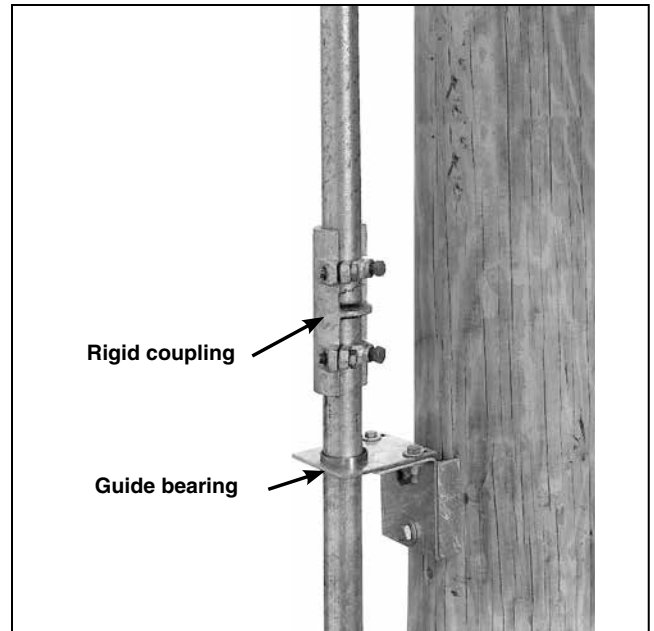

Figure 19. Installing the intermediate section of the vertical operating pipe.
STEP 17. Install a guide bearing assembly with each additional vertical operating-pipe section, positioned in accordance with the dimension shown on the erection drawing. See Figure 19. Thrust bearings are only necessary on the uppermost guide bearing. Use rigid couplings to join these additional pipe sections. Before installing the coupling, back the piercing set screws out of the coupling body so they do not protrude into the coupling.